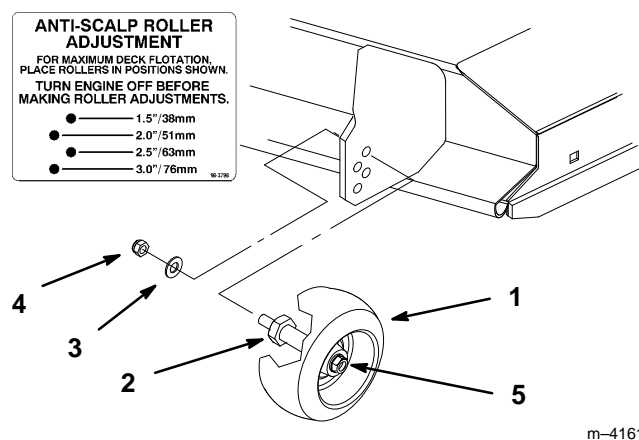

Figure 13
2. After adjusting height-of-cut remove flange nut and spring disk while holding stud with wrench (Fig. 13).
Note: Do not remove the wheel nut and washer (Fig. 13).
3. Select hole so gage wheel is positioned to the nearest corresponding height-of-cut desired (Fig. 13).
4. Reinstall the flange nut and spring disk (Fig. 13).